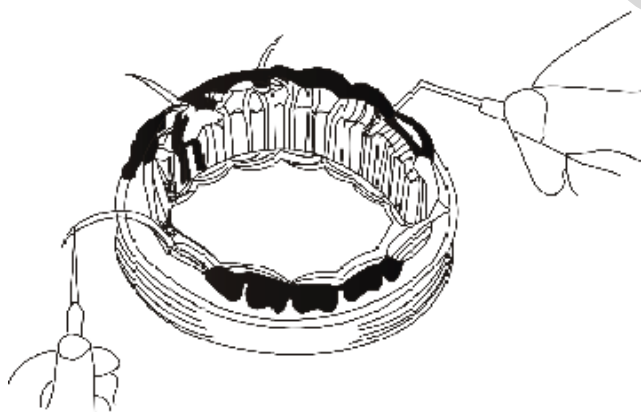

Fig.12-26 Break Check of Generator Stator Winding
3) Check the rotor winding for earthing, and check the resistance between the sliding ring and shaft of rotor, as shown in Fig.12-26. Normally, the resistance shall be disconnected. If connected, it shows that the winding or sliding ring shall be shorted.